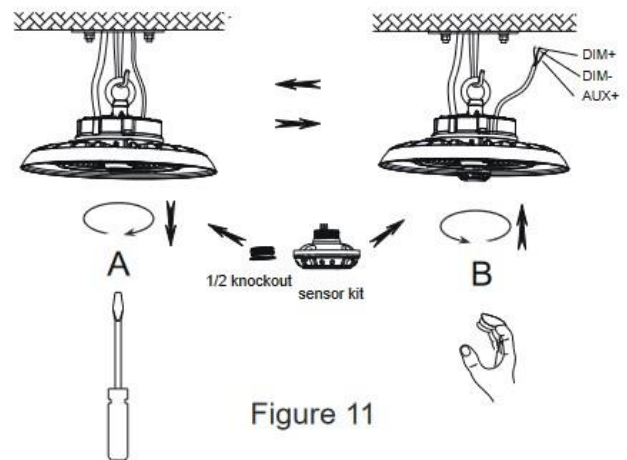

Figure 11
3. Screw the sensor into the socket (Figure 11).
4. The sensor is preprogrammed to default settings. To adjust settings, use the optional remote control (PLTS-12281, sold separately) (Figure 11).